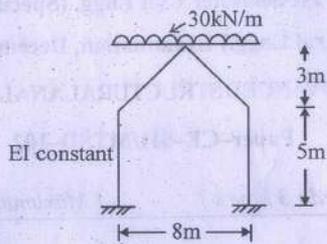

Fig. 1.
2. Generate the stiffness matrix and obtain the load vector for the gable frame shown in Fig. 1.